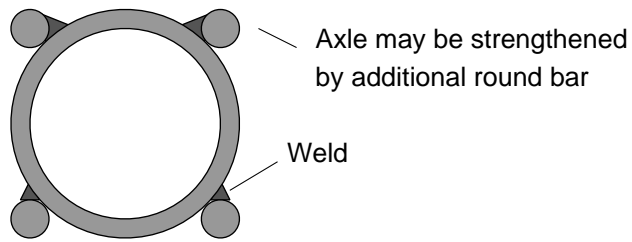

Figure 4: method of adding round bar to support pipe axle and strengthen it if needed.
3. When you have got the right pipe sizes, you can cut the two hub pipes each 200 mm long and the axle pipe about 1500 mm or 1600 mm long or if you are going to do it with a central section in square pipe or angle iron you need to cut the central section about 1200 mm long plus the two stub axles each about 350mm long. If you need to support a simple one piece pipe axle an easy way is to weld short pieces of round bar onto it as shown in Figure 4. If you make these about 300 mm long they will strengthen the axle quite a lot as well.